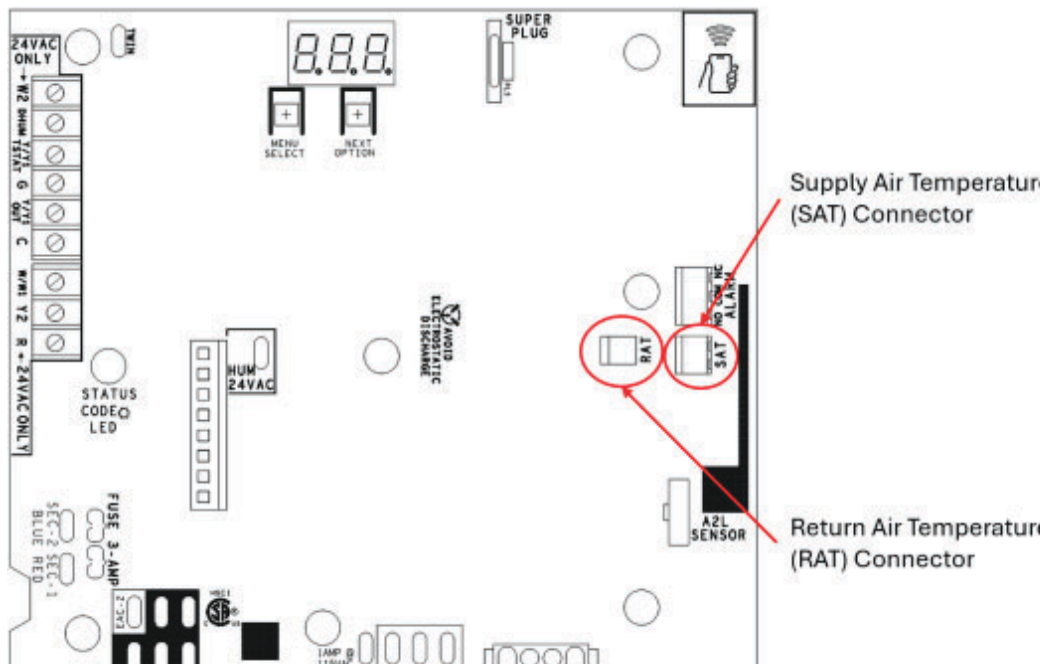

Fig. 2 – Sensor Connections on Furnace Control Board
7. Connect the sensor wire leads to the control board at the screw terminal marked "SAT" (Fig. 2). If additional wire length is needed, thermostat wire and wire nuts can be used to extend the wires.
Install the RAT sensor by connecting the sensor connector to the control board terminal marked "RAT" (Fig. 2).